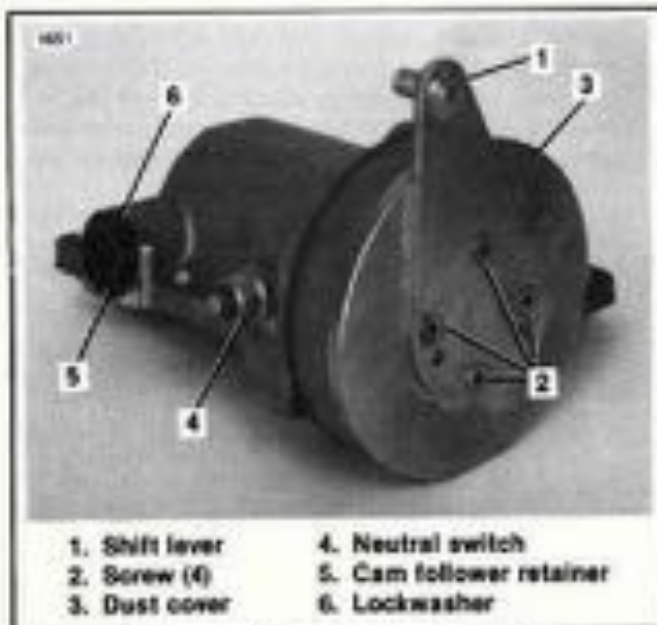

Figure 7-4. Drum Shifter Assembly
3. See Figure 7-4. Remove the shift lever (1), mounting screws (2), and dust cover (3). Remove the neutral switch (4). Remove the cam follower retainer (5) and lockwasher (6). Remove the spring and cam follower from the retainer (5).
11. See Figure 7-4. Install the dust cover, shift lever and mounting screws. Coat the threads of the mounting screws with Loctite LOCK N' SEAL.